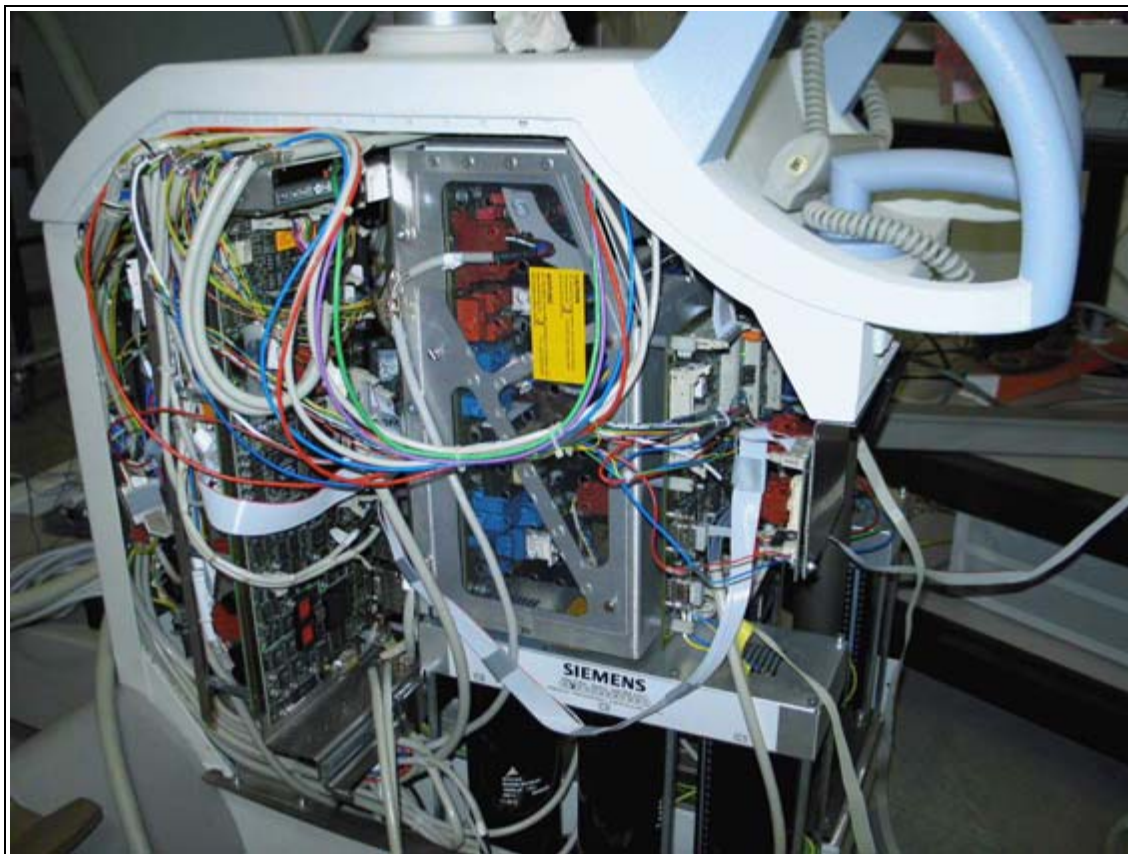

Fig. 6: Service_position
1. The board slide-in module can be withdrawn after loosening the two screws \(Fig. 6 / p. 24\).
1. Withdraw the slide-in module with D1 and D30 in the working position (Fig. 6 / p. 24).